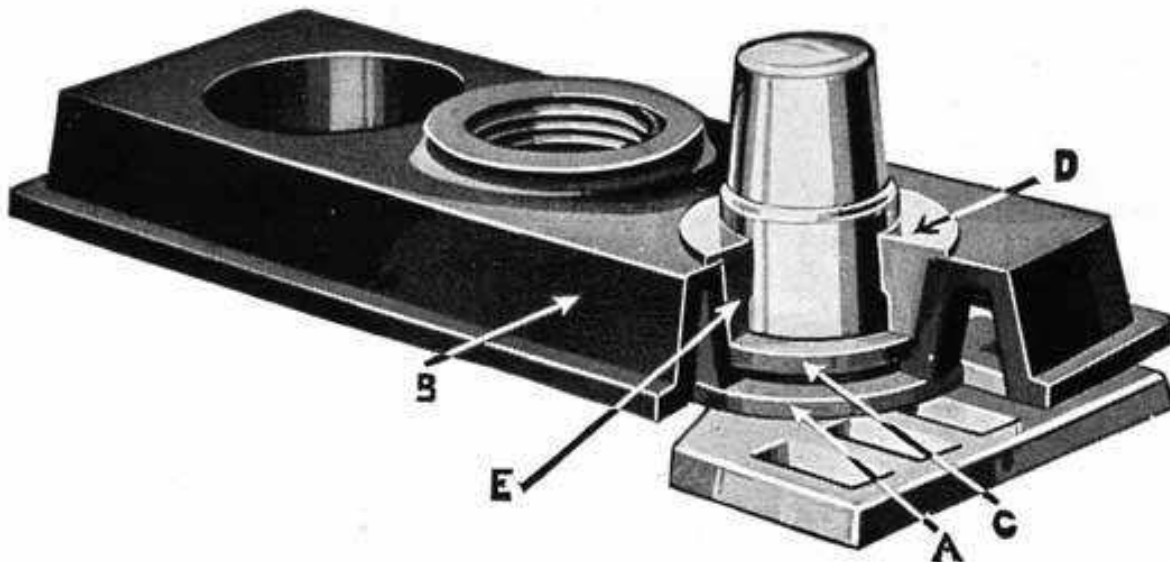

Fig. 291. Universal Battery Cover Construction
Fig. 291 shows the Universal Co. Post Seal construction. A soft rubber washer (A) is first slipped over the post. The cover (B) is then put in place, and rests on the washer (A) as shown. A second washer (C) is then slipped over the post, resting on the upper surface of the shoulder of the cover. The lead sleeve washer (D) is then forced down over the post, pressing washer (C) down on the cover, and pressing the cover down on washer (A). The two rubber washers serve to make a leak proof joint between post and cover. The lead sleeve-washer (D) "freezes" to the post, and holds cover and washers in position.